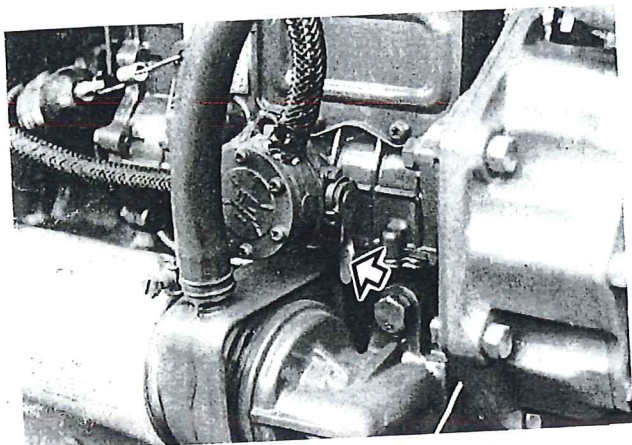

Figure 43 — Priming Pump Lever
The fuel system of your SHIBAURA tractor can be bled by only actuating the priming pump lever, in Figure 43.
2. Actuate the priming pump lever approximately 10 times, in Figure 43.